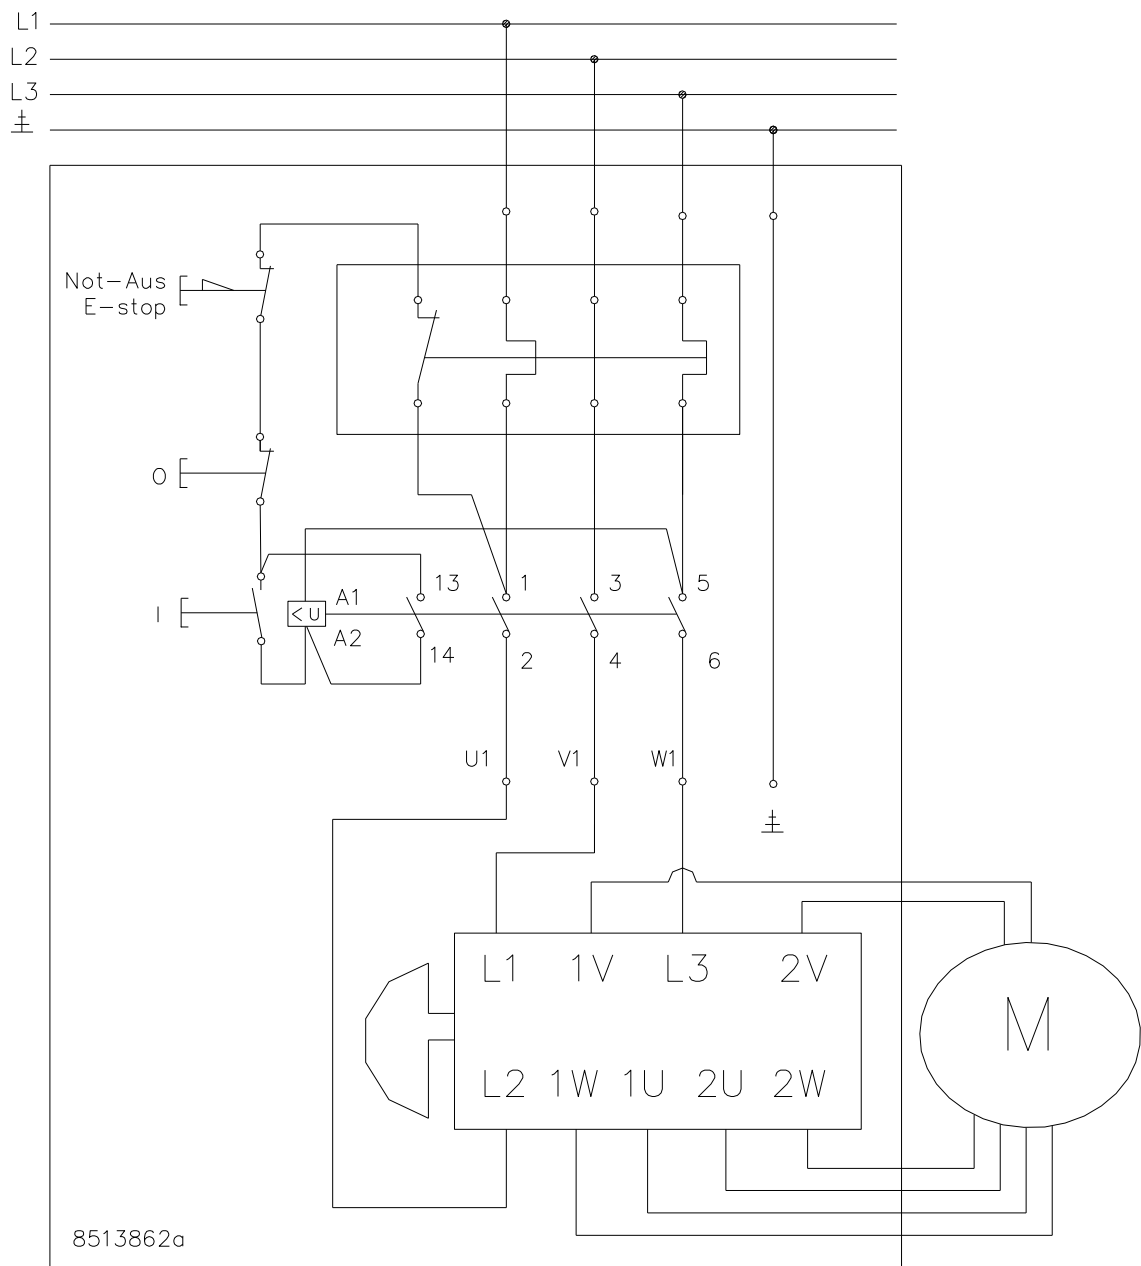

Fig.: 4.3.5 Diagram of belt grinder with two velocities and no exhaustmotor.
- Two velocity grinder with no brakes see Fig. 4.3.5 and 4.3.6